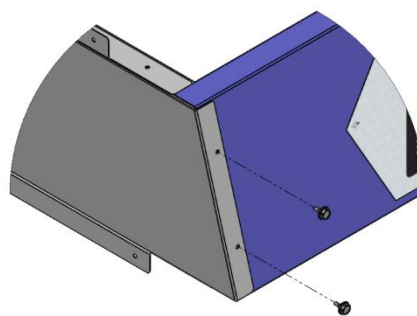

Figure 4: Secure rear panel to side panel with supplied No. 10 x 3/8" screws.
3. Secure the rear panel to the side panel using the supplied **No. 10 x 3/8"** screws in the aligned pre-drilled holes as shown in **Figure 4**.